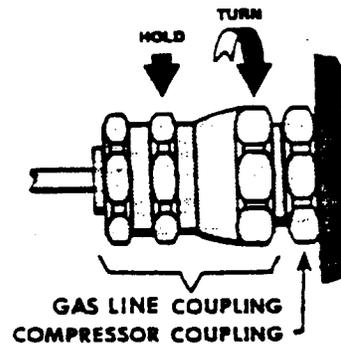

Fig. 5 Connect Gas Line to Compressor
4. Connect the supply gas line to the supply coupling on the compressor. Use two wrenches to tighten the coupling to 4.87 ± 0.7 kgf m (35 ± 5 ft. lbs.). See Fig. 5. Tighten each coupling before proceeding to the next one.